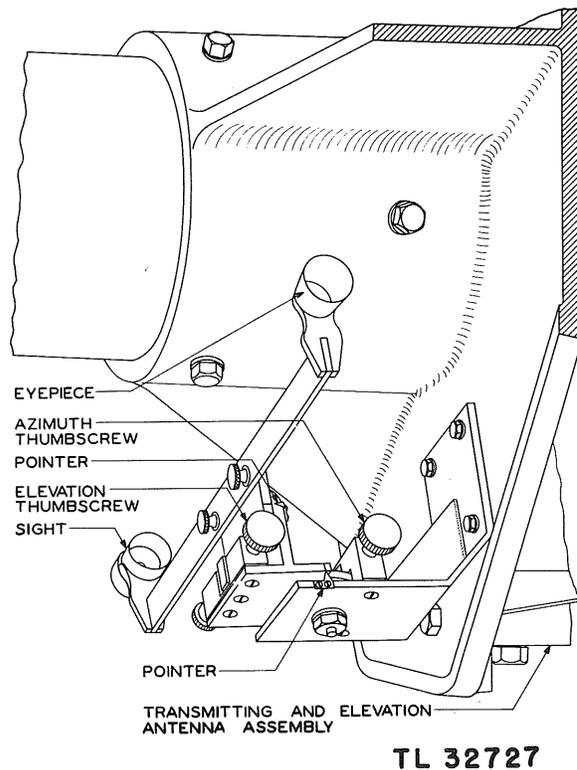
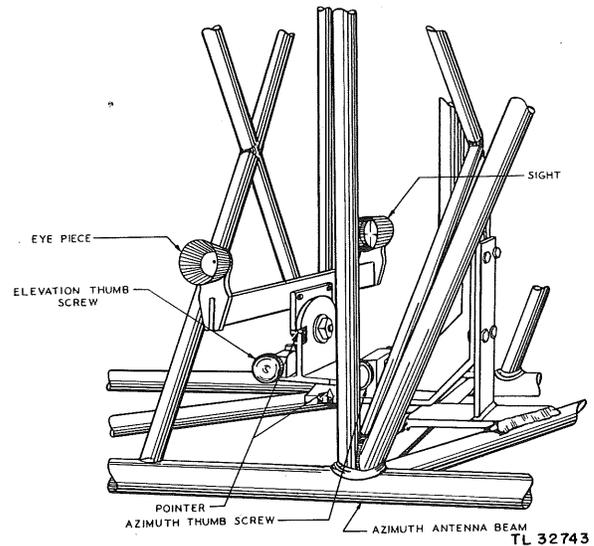

Figure 63. Sight M-351, mounted, with wooden antenna.
Figure 64. Sight M-351, mounted, with metal antenna.
a. *Function.* Sight M-351 (peepsight) consists of an eyepiece and crosshairs set in a bar which is fastened to a mounting that includes an elevation and azimuth adjustment mechanism. Reference pointers for elevation and azimuth are provided. The mounting is fastened by means of a pivot screw to a support which is used to mount the complete peepsight assembly. Figure 63 shows the location and method of mounting the peepsight on radio sets equipped with wooden antennas. Figure 64 illustrates the method of mounting the peepsight on radio sets equipped with metal antennas. When the peepsight is properly adjusted, the aerial target being tracked by the radio set should center exactly between the horizontal and vertical bars of the sight when the radio set is on the target. Before adjusting the peepsight, make sure it is mounted securely.
d. *Peepsight Adjustment in Azimuth with Mechanical Axis.* (1) Select an object at a distance, such as a house or other object on the horizon. Set the antennas at their minimum angular-height position and rotate the mount in azimuth until the object can be seen by sighting through the transposition (feed) lines of the antennas from one end of the system to the other. In this way, the antennas will be positioned so that the end-to-end axes of the